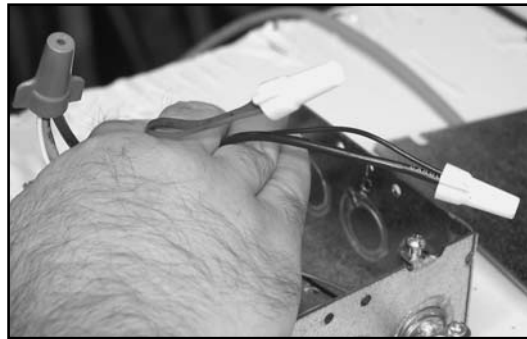

Figure 4
16. Carefully inspect each Wire Nut connect for proper installation. See **Figure 4**.